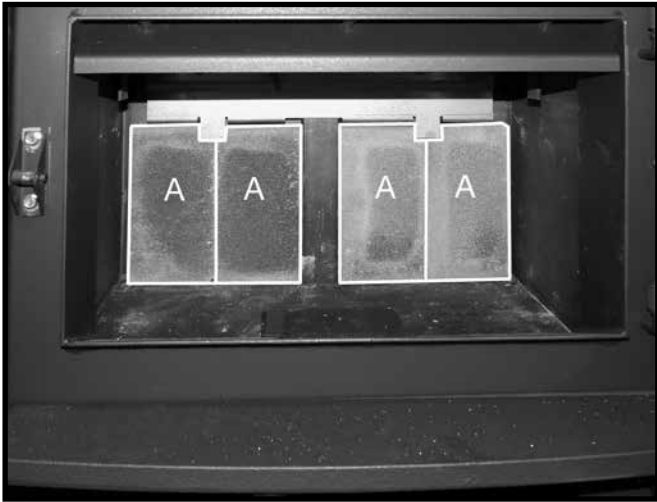

Figure 17: Remaining rear wall firebricks in place.
1. Stand one "A" firebrick vertically behind the tab located on the brick rail. Slide the firebrick toward the center of the rear wall (Figure 17). Slide a 2nd "A" firebrick underneath the tab on the brick rail (Figure 17). Repeat steps 1 & 2 for the placement of the other "A" firebricks on the rear wall (Figure 17).